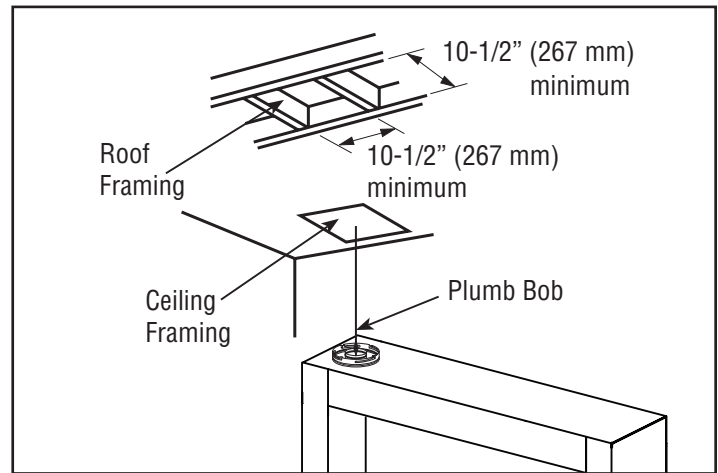

Figure 17 - Framing the ceiling opening
- 3. Frame the ceiling opening**—If the vertical route is to penetrate a ceiling, use plumb line to locate the center above the fireplace. Cut and/or frame an opening, 10 1/2 x 10 1/2" (267 x 267 mm) inside dimensions, about this center (Figure 17, page 19).
2. **Frame the ceiling opening**—Use a plumb line from the ceiling above the fireplace to locate the center of the vertical run. Cut and/or frame an opening, 10 1/2 x 10 1/2" (267 x 267 mm) inside dimensions, about this center mark (Figure 17).